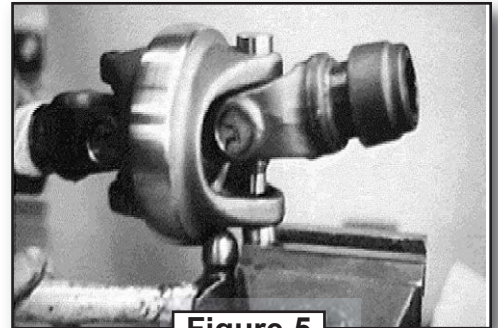

Figure 5
5. Fasten one of the bearing cups in the vise. Make sure the jaws of the vise are as close to the center housing as possible. Hit the center housing to drive the center housing up off the bearing cup. Be careful not to hit the machined surface of the center housing (see Figure 5). Do not remove the other bearing cup from the center housing at this time.